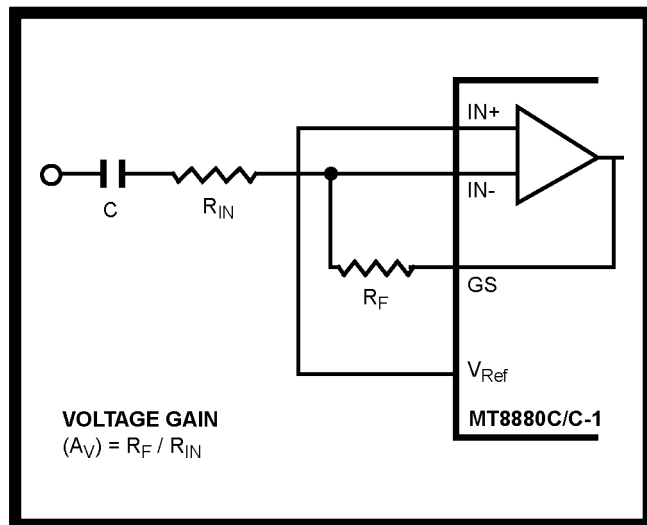

Figure 3 - Single-Ended Input Configuration
The input arrangement of the MT8880C/C-1 provides a differential-input operational amplifier as well as a bias source ( $V_{Ref}$ ) which is used to bias the inputs at  $V_{DD}/2$ . Provision is made for connection of a feedback resistor to the op-amp output (GS) for adjustment of gain. In a single-ended configuration, the input pins are connected as shown in Figure 3.